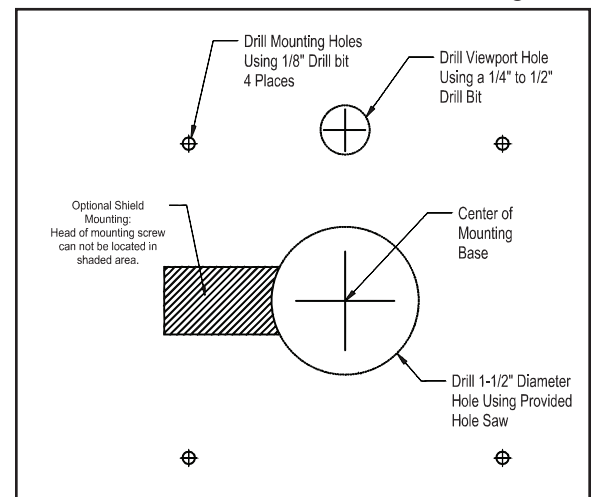

Figure 3
3. Drill $\frac{1}{8}$ " diameter mounting holes at positions indicated on template. (See Figure 3)
4. Cut out the large opening (1- $\frac{1}{2}$ " hole) on the template. (See Figure 3)
5. Using a $\frac{1}{4}$ " to $\frac{1}{2}$ " drill bit, drill a viewport hole as indicated on the template. (Figure 3)
8. Attach the UV-Aire mounting base onto the plenum with the supplied sheet metal screws. (Refer to template as shown in Figure 3) This must be tight in order to activate the built-in safety switch.